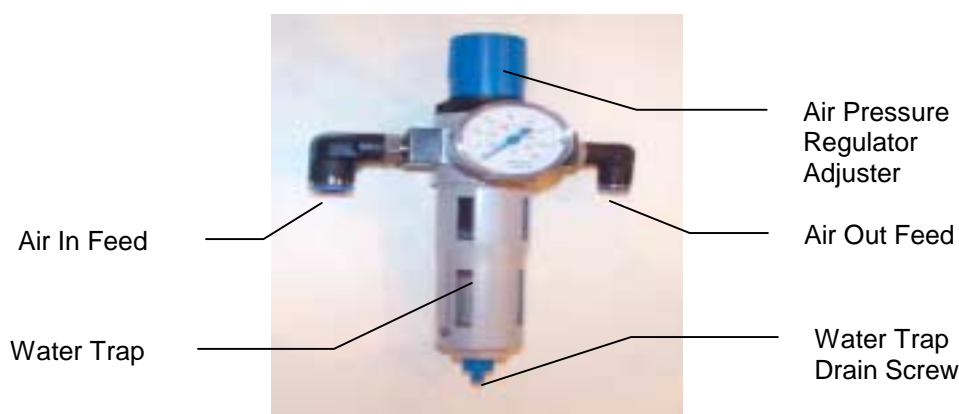

Figure 8.1 Air Regulator and Filter Unit Assembly
2. Check that the water trap is empty. Empty it by unscrewing the drain screw. Refer to Figure 8.1.